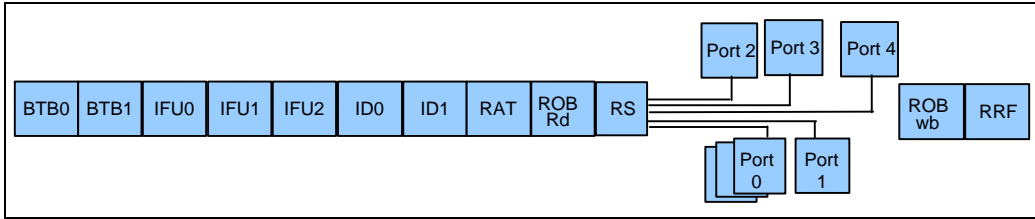

Figure 2-3. Pentium® Pro Processor Pipeline
The Pentium Pro processor pipeline contains three parts: (1) the in-order issue front-end, (2) the out-of-order core, and (3) the in-order retirement unit. Figure 2-3 details the entire Pentium Pro processor pipeline.